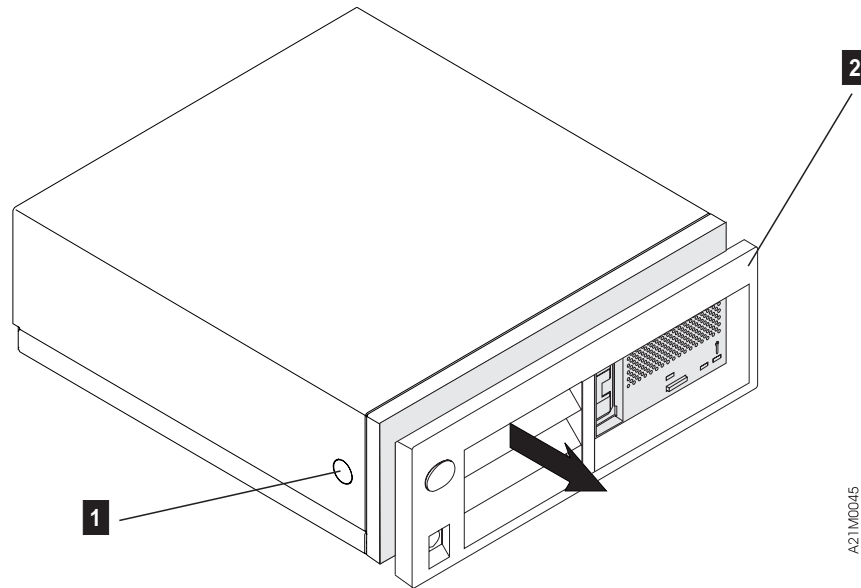

Figure 5. Removal of Model B00 Front Cover
2. Remove the front cover to expose the drive with its drive cover by pressing the buttons on each side of the front cover and pulling forward (see **1** and **2** in Figure 5 on page 19).
Note: There is a corresponding tab on the opposite side of the chassis to the one shown as **1** in Figure 5.